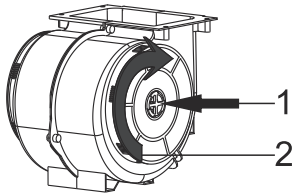

Fig. 6: AF 100 CARBON FILTER
- 1-Place the carbon filter in its housing.Fig. 6
- 2-Rotate the carbon filter clockwise and make sure that it is seated completely.Fig. 6